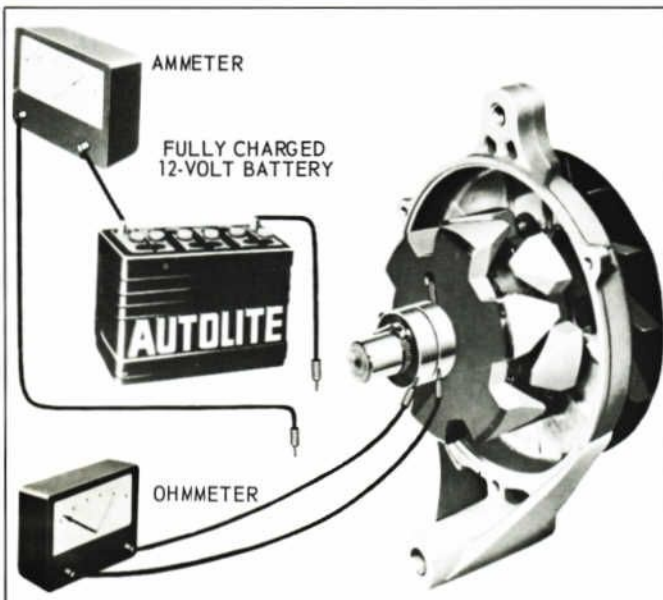

**FIGURE 35. STATOR WINDING GROUND TEST**
2. Touch one test prod to a bare metal surface of the stator core, and the other prod to a bare stator lead wire. The test lamp should not light. (See Figure 35.)